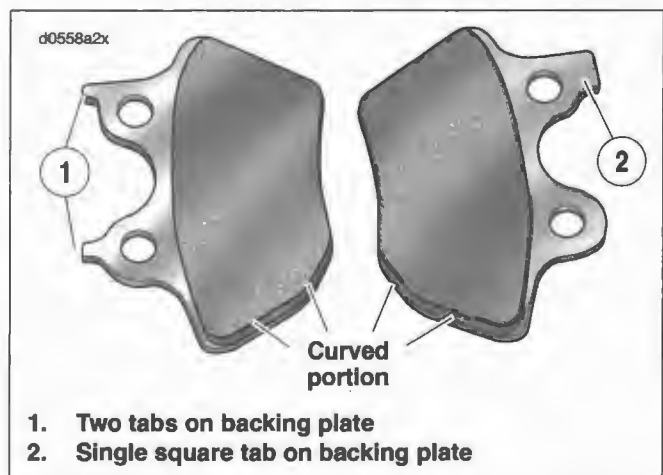
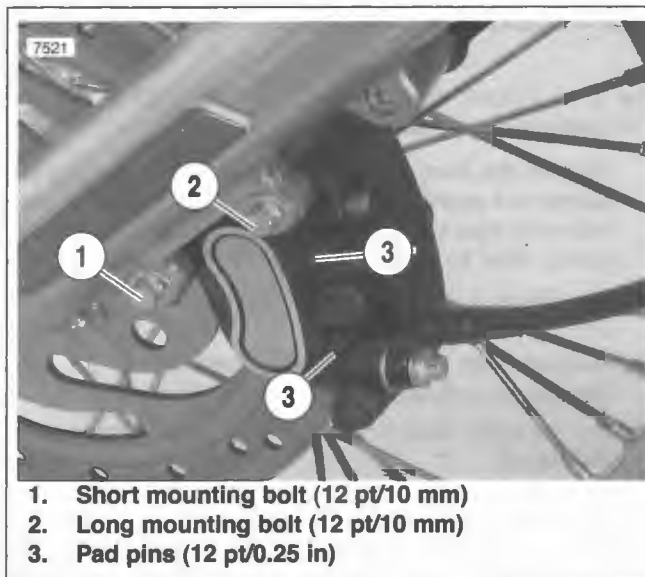

Figure 1-19. Brake Pad Orientation
Figure 1-20. Front Brake Caliper
- See Figure 1-19. Install pad with two tabs (1) on the inboard side of the rear caliper.
2. See Figure 1-20. Loosen, but do not remove, both pad pins (3) (12 pt/0.25 in.).
- See Figure 1-19. The front and rear brake calipers use the same exact brake pad set.
- On the right side of the vehicle, the pad with two tabs (1) installs on the inboard side of the caliper.
- On the left side of the vehicle, the pad with two tabs (1), installs on the outboard side of the caliper.
- a. See Figure 1-20. Place caliper over brake disc with bleeder valve facing upwards.
- b. Loosely install long mounting bolt (2) (12 pt/10 mm) into top hole on fork leg.
- c. Install short mounting bolt (1) (12 pt/10 mm) into bottom hole on fork leg. Tighten bottom mounting bolt to 28-38 ft-lbs (38.0-51.5 Nm).